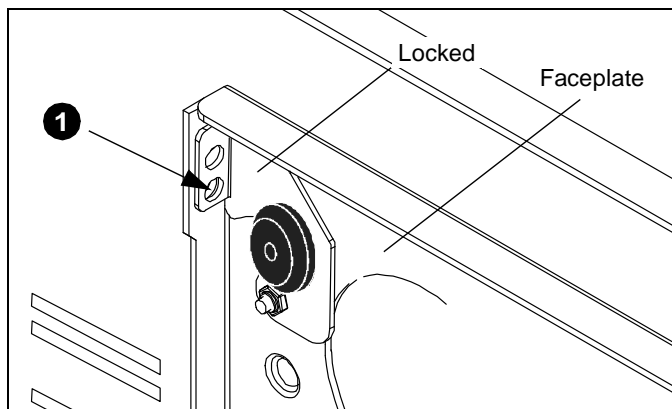

Figure 14
1. Insert padlock through lower hole in Q-Latch flag and faceplate. (See Figure 14)